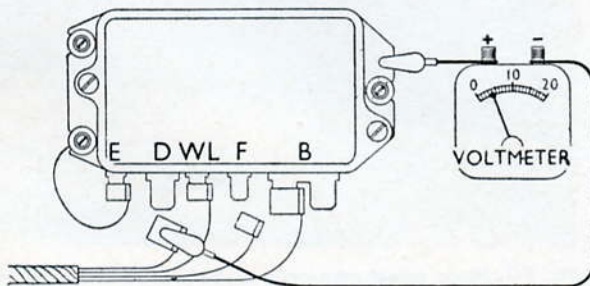

Fig. P.9. Testing generator output—stage 1
- (b) Connect the negative lead of a 0-20 range voltmeter to the wire removed from the 'D' terminal, and connect the positive lead to earth (Fig. P.9).